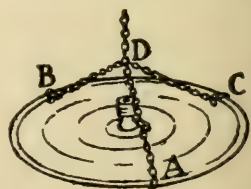

FIG. 219 — How to make the Hitch-and-Kick Plate out of an Old Pot Cover.
**The Hitch-and-Kick** (Fig. 218) is a piece of apparatus that will give you a chance to limber up your leg muscles by practicing the *high kick*. The plate (Fig. 219) may be an old *pot cover* or a *cake-tin*, with three holes punched at *A*, *B*, and *C*. Attach brass chains at these holes, join them at *D*, and at this point connect the end of a piece of chain 12 or 14 feet long. Fasten a small screw-pulley or a screw-eye in the ceiling (Fig. 218), slip the chain